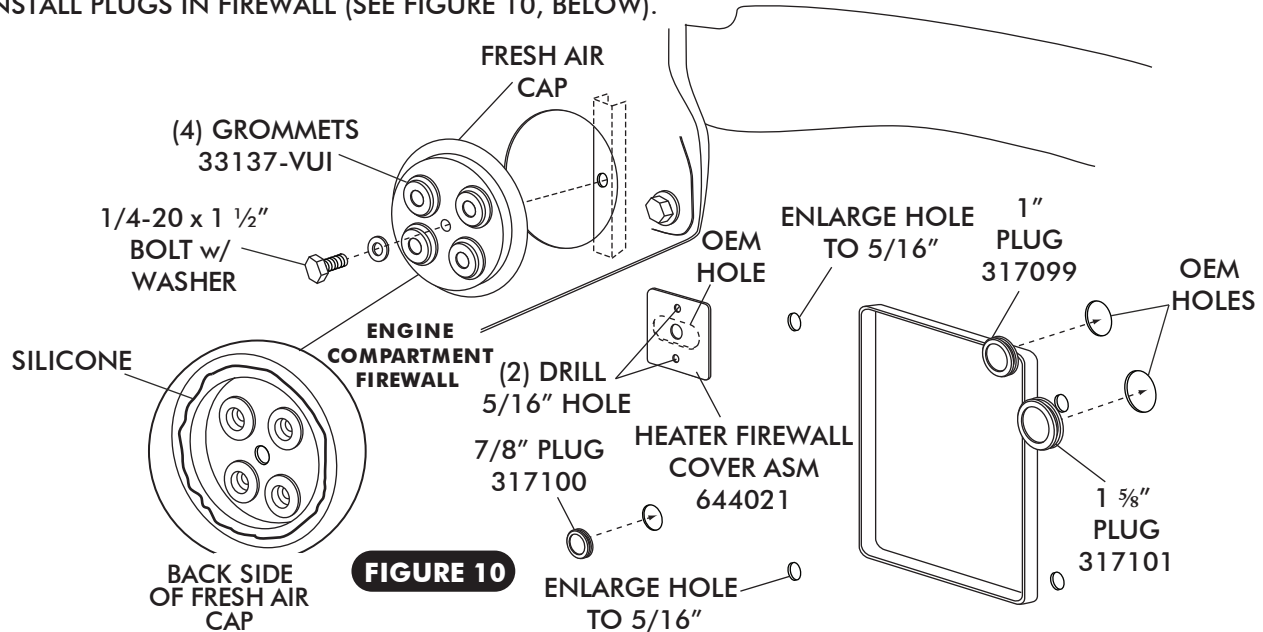

FIGURE 10
- ☐ USING HTR FIREWALL COVER ASM AS A TEMPLATE, MARK AND DRILL (2) 5/16" HOLES (SEE FIGURE 10, BELOW).
- ☐ ENLARGE (2) OEM HOLES IN FIREWALL TO 5/16" (SEE FIGURE 10, BELOW).
- ☐ INSTALL (4) GROMMETS IN FRESH AIR CAP (SEE FIGURE 10, BELOW).
- ☐ APPLY A 1/4" BEAD OF SILICONE AROUND THE BACK SIDE OF THE FRESH AIR CAP AS SHOWN IN FIGURE 10, BELOW. ATTACH FRESH AIR CAP TO FIREWALL USING A 1/4-20 x 1 1/2" BOLT AND WASHER (SEE FIGURE 10, BELOW). **NOTE: FRESH AIR CAP INSTALLS ON ENGINE SIDE OF FIREWALL.**
- ☐ INSTALL PLUGS IN FIREWALL (SEE FIGURE 10, BELOW).